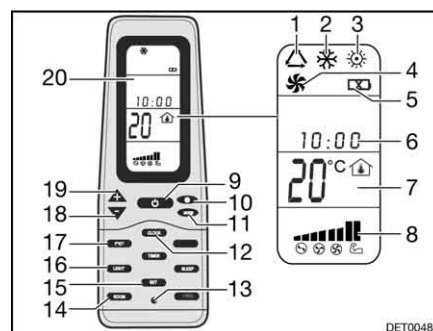

Fig. 120 Remote control
- Press the ON/OFF button (Fig. 120,9).
- Press the "Mode" button (Fig. 120,11) as often as required until the required mode (Fig. 120,1, 2, 3 or 4) is indicated on the display (Fig. 120,20).
- Use the "+" (Fig. 120,19) and "-" (Fig. 120,18) buttons to set the desired temperature.
- Use the fan speed button (Fig. 120,10) to select the desired fan level.